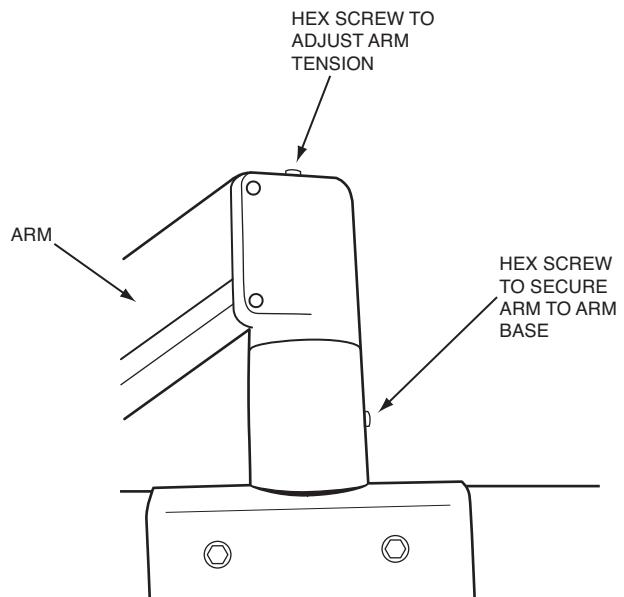

Fig. 6 — Adjust Arm Tension
4. Using a hex screwdriver, secure the arm from pulling out of the mount by tightening the hex screw on the side of the mount. The display screen can now be positioned to desired height. To adjust tension on the up and down movement of the arm, tighten the hex screw on the top of the arm mount (Fig. 6).